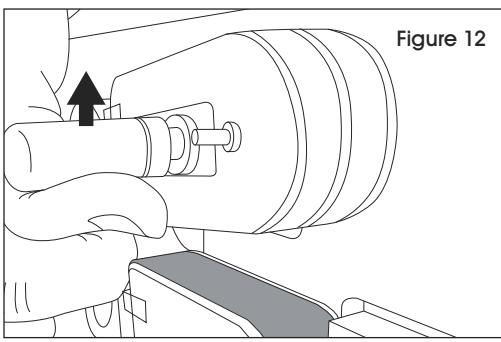

Figure 12
**NOTE:** This will require lifting on the handle to separate the heating blocks. (See Figure 12)